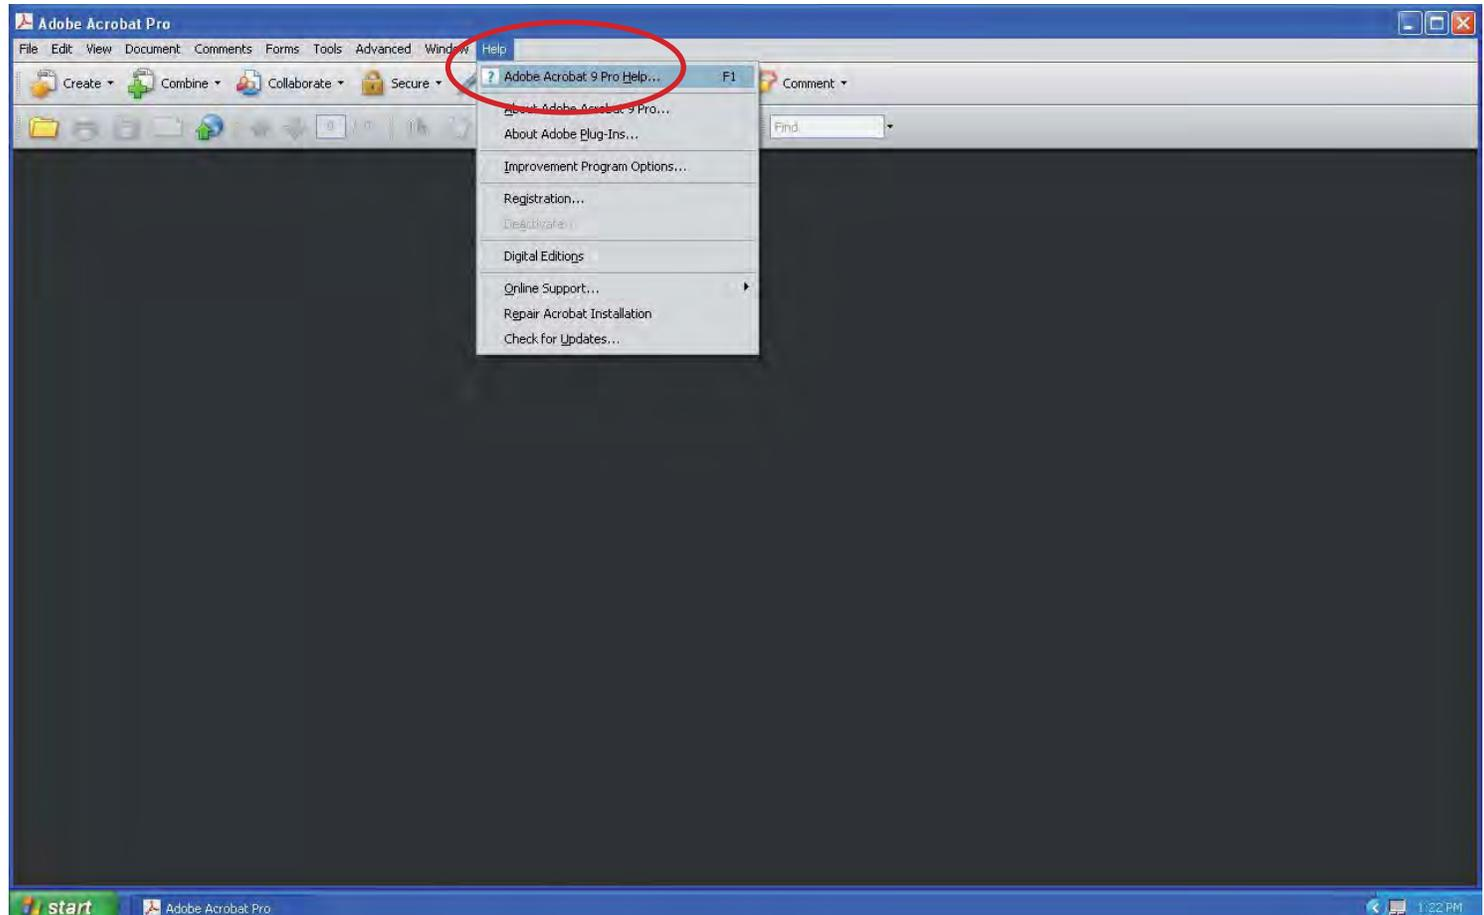

Fig. 1
1. Open Adobe Acrobat 9 Pro software. (Fig. 1)